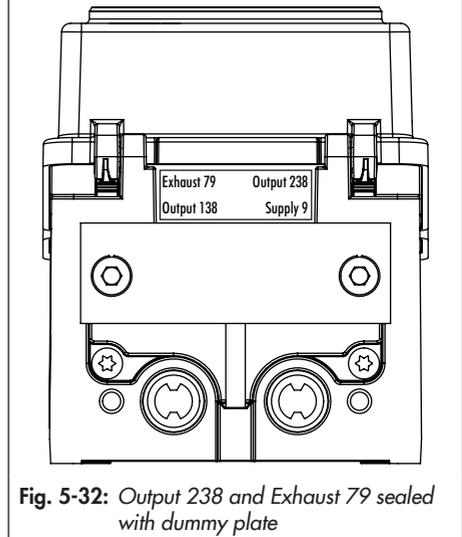

Fig. 5-32: Output 238 and Exhaust 79 sealed with dummy plate
- ➔ Seal Output 238 and Exhaust 79 with a dummy plate (see Fig. 5-32) if only one pneumatic output is available.
The signal at output 138 is used to control a single-acting pneumatic actuator. The outputs 238 and 79 are sealed (see Fig. 5-32). The air capacity can be doubled by using two pneumatic modules.
The signal at output 138 is used to control a single-acting pneumatic actuator. The outputs 238 and 79 are sealed (see Fig. 5-32). If the fail-in-place function is triggered, the pneumatic output of the positioner is closed and the actuator remains in its last position. This happens when the positioner signal changes to the **SAFE** mode (e.g. after the signal falls below 3.8 or 4.4 mA or when the forced venting is activated).